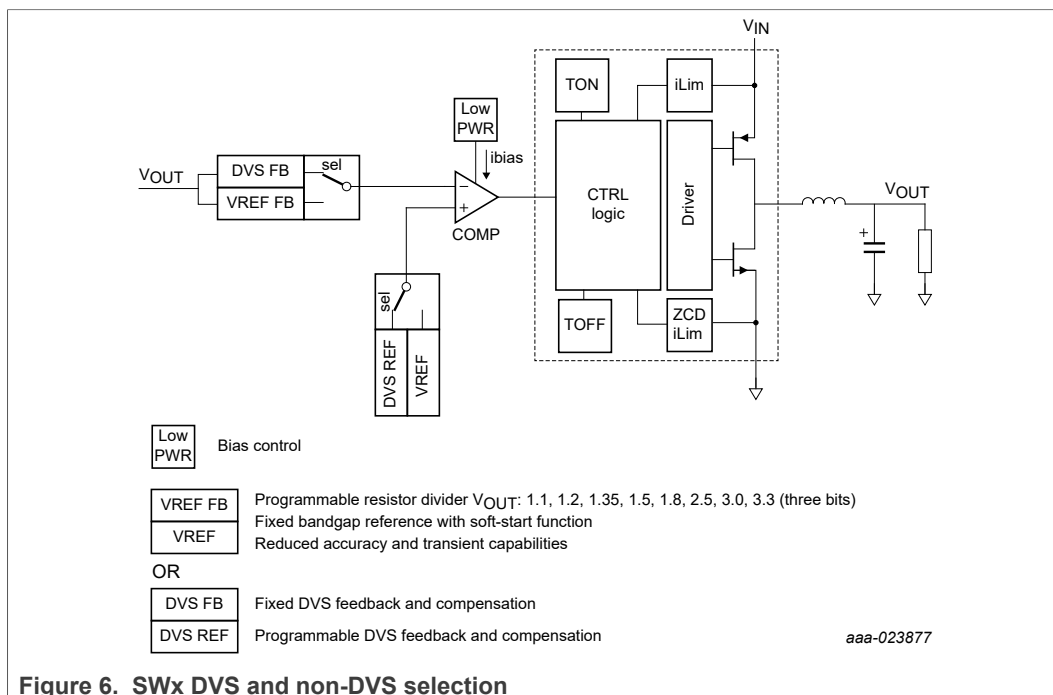

Figure 6. SWx DVS and non-DVS selection
- **DVS enabled:** a DVS reference is activated and output accuracy of the regulator is tight at the cost of slightly higher quiescent current. See Section 5.3 "Electrical characteristics" for details. In Figure 6, **DVS FB** and **DVS REF** are enabled via OTP for this mode of operation.
- DVS disabled: the regulator operates as a traditional buck converter with a fixed reference and soft-start. The quiescent current in this mode is lower at the cost of output accuracy and transient response. See Section 5.3 "Electrical characteristics" for details. In Figure 6, VREF FB and VREF are enabled via OTP for this mode of operation.